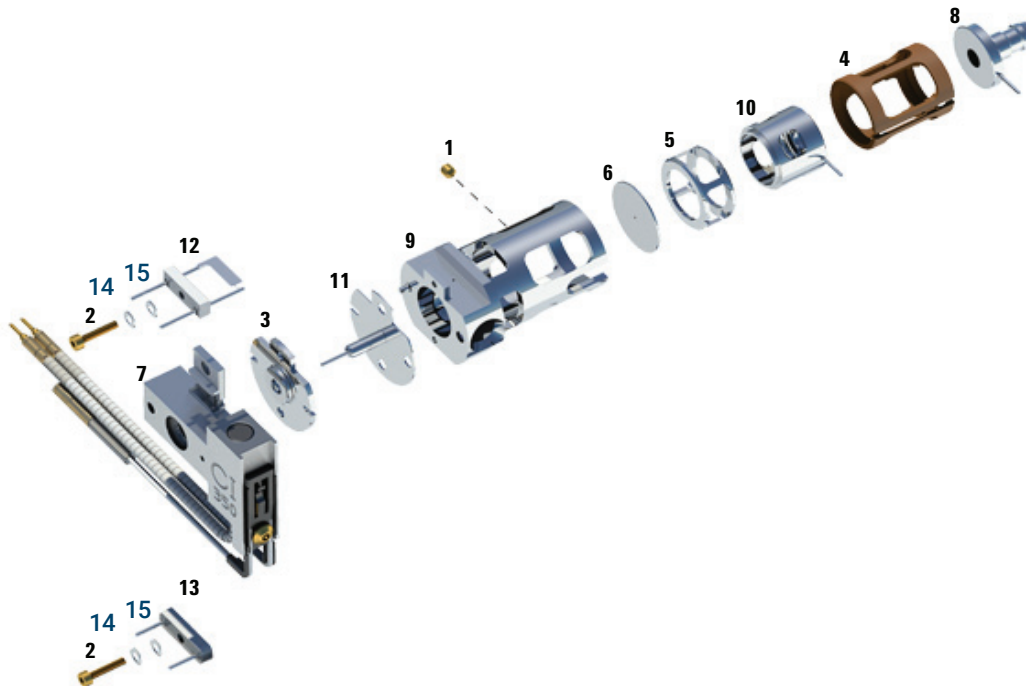

Figure 75. Assembling the CI source
Refer to the exploded parts view **Figure 75** and the CI source parts list **Table 27** on page 227 while using this procedure.
**Table 27** Parts list for CI source (Figure 75)
**Table 27** Parts list for CI source (Figure 75) (continued)